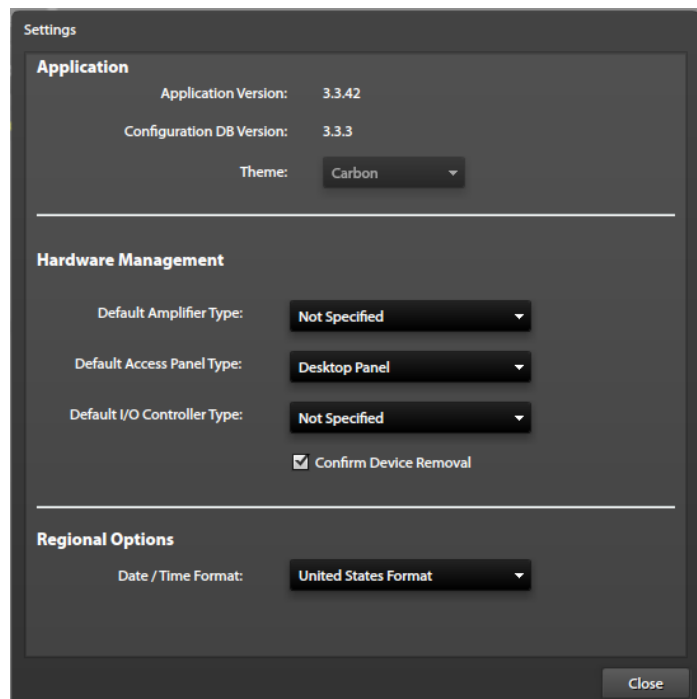

Figure 10. Application Options
**Settings**—provides application and database version information and facilitates setting several options in the console software (see Figure 10).